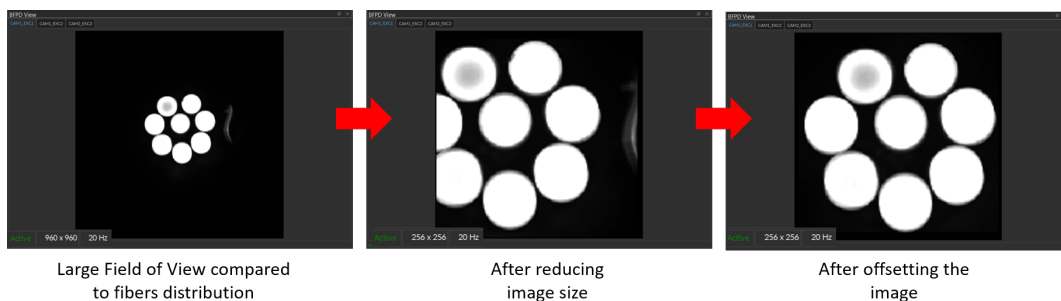
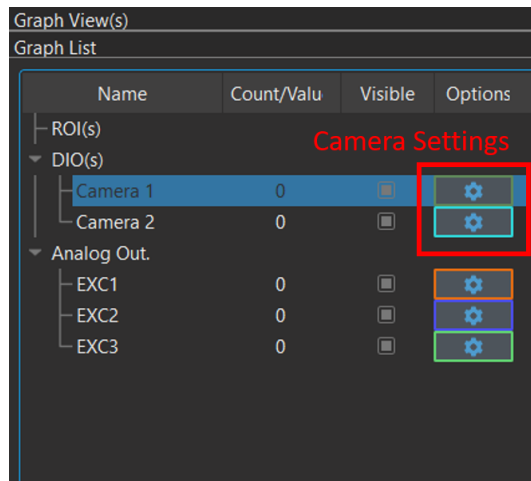

Figure 1.11: Adjusting BFPD View
Figure 1.12: Access Image Size
Note: When you are imaging small number of fibers, reduce the image size to reduce computational resources on Windows System processing during data acquisition (Fig. 1.11).
- If the image size is very large and includes a lot of empty space in addition to the fibers, try reducing the **Image Size** parameter in the configuration (Fig. 1.11). This will help facilitate data processing by PC. To modify the **Image Size**, click one of the **Camera Settings** icons on the right side of the **Acquisition** window to open the settings window (Fig. 1.12).
- First, make sure the **Image Size** is large enough to include all the ROIs in the field of view. To modify the **Image Size**, click one of the **Camera Settings** icons on the right side of the **Acquisition** window to open the settings window (Fig. 1.12).